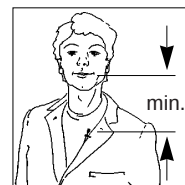

Fig. 3: Attaching the microphone near the user's mouth.
2. Attach the microphone to the talker's clothes, e.g., on the lapel, placing it as close as possible to the talker's mouth. (See fig. 3.)